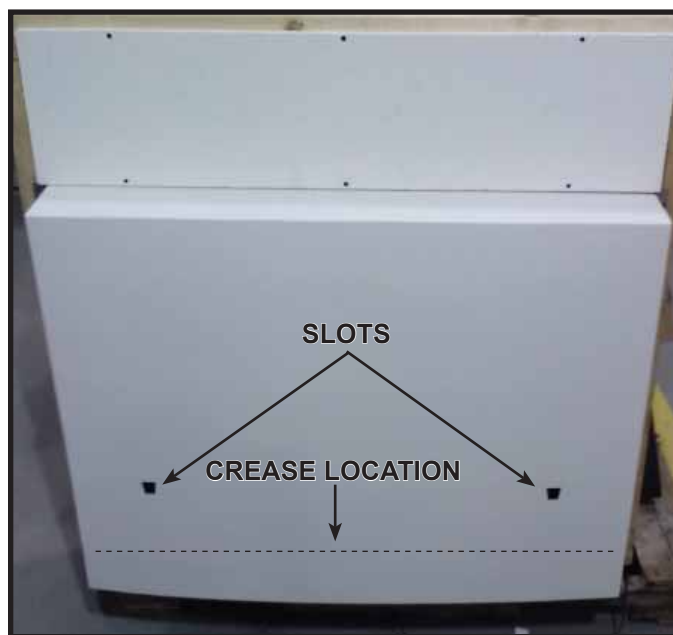

Figure 17. Splatter Guard Installed
2. To gain access to the component tray, lift the flap on the splatter guard and crease the perforation by hand. Bend the tabs and insert them into the slots on the splatter guard. See Figures 17 and 18.